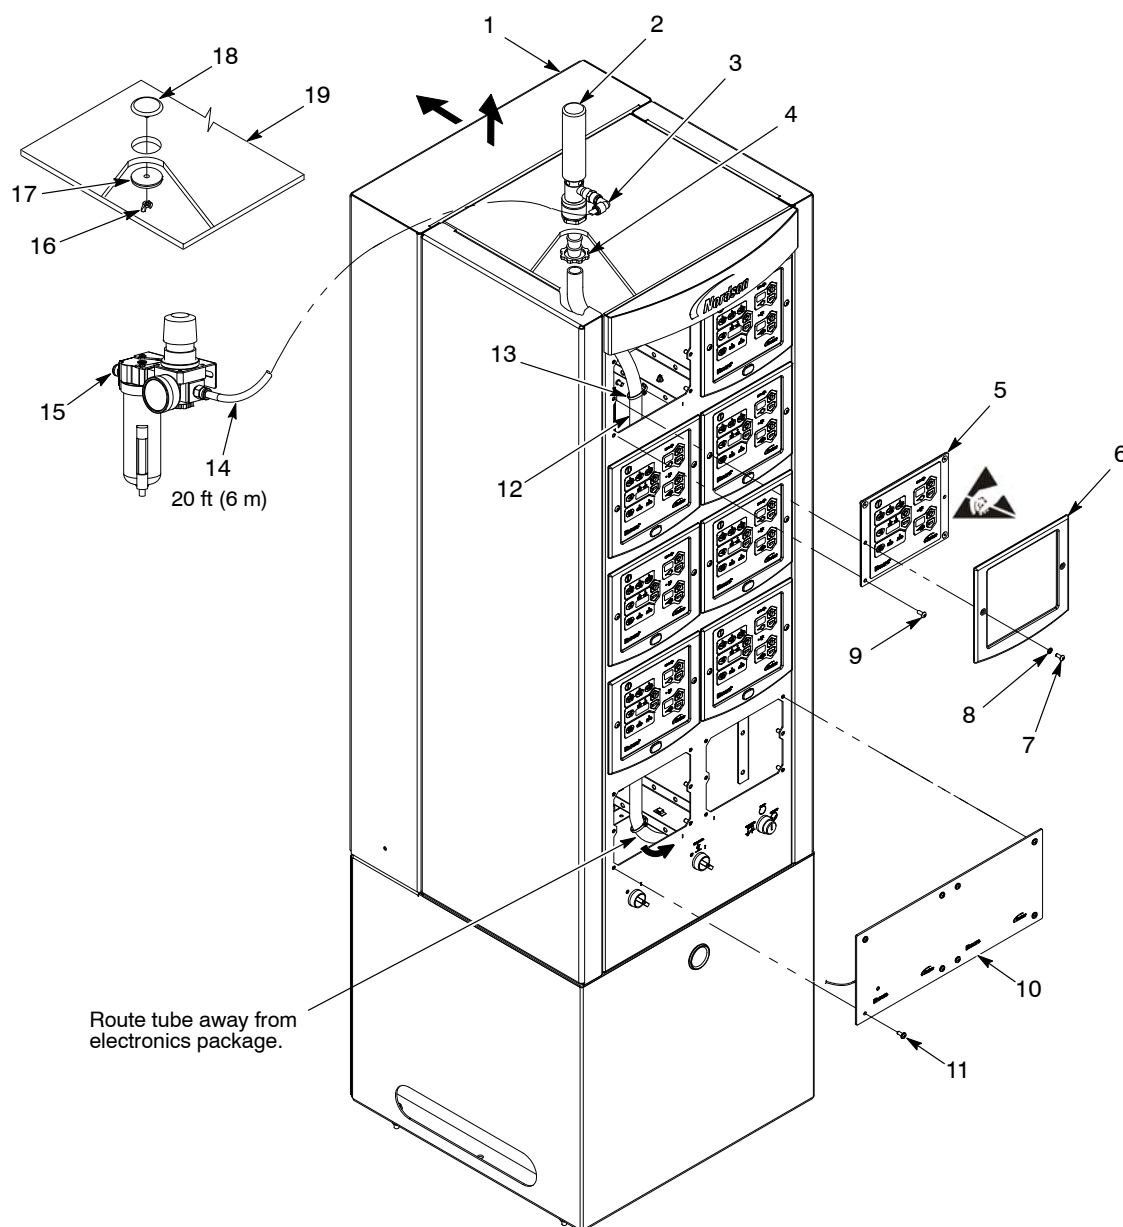

Figure 3 Typical Encore Controller Cabinet Installation
1. See Figure 3. Remove the screws (7) and washers (8) securing the bezel (6) to the cabinet (19).
2. Remove the screws (9) securing the keypad (5) to the cabinet (19).
3. Remove the wing nut (16) securing the spacer (17) and plug (18) to the top of the cabinet (19).
4. Remove the screws (11) securing the panel blank (10) to the cabinet (19).
5. Make sure that the o-ring (not shown) is in the groove on the bottom of the cooler (2). Install the cooler onto the cabinet (19) using the nut (4). Tighten the nut securely.
6. Route the tube (12) from the cool air distribution kit through the cabinet as shown in Figures 3 and 4. Make sure that the end of the tube is routed away from the electronics package located in the bottom of the cabinet (19).
8. Use the cable straps (13) to secure the tube (12) to the inside of the cabinet (19) along the middle support rail as shown in Figure 3.
9. Mount the filter/regulator assembly (15) in the desired location.
10. Connect the tubing (14) to the regulator (15) and the cooler fitting (3).
11. Install the panel blank (10) using the screws (11). Tighten the screws securely.
12. Install the keypad (5) to the cabinet using the screws (9). Tighten the screws securely.
13. Install the bezel (6) to the cabinet (19) using the washers (8) and screws (7). Tighten the screws securely.